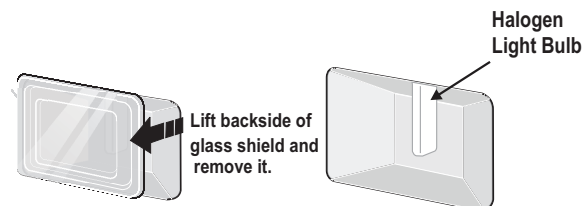

Figure 32: Light shield and bulb
2. To remove the glass shield, pull the back side of the shield toward the inside of the oven in a manner to lift it up from the oven side. The glass shield should come out easily by pushing a little toward front of the wall oven (Figure 32).